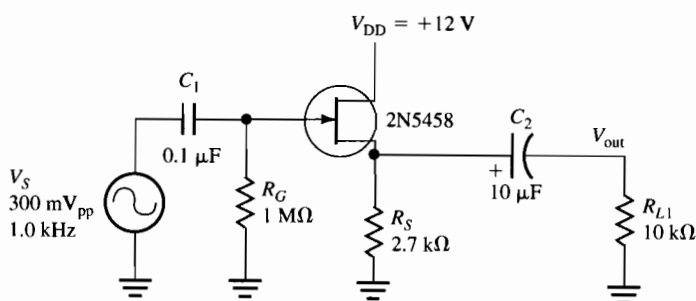

Figure 40–3
4. Remove C_3 and R_D from the circuit and move C_2 and R_{L1} from the drain to the source, as shown in Figure 40–3. Connect the drain directly to +12 V. Measure the dc voltage at the drain, source, and gate and compute I_D . Observe the output voltage from the source with the oscilloscope. Measure the voltage gain and note the phase. Enter the data in Table 40–2 in the row labeled Common-Drain Amplifier.
5. Remove R_{L1} from the CD circuit and add a bipolar CE amplifier, as shown in Figure 40–4. Use the 4.7 kΩ drain resistor for R_L . *Note the polarity of C_2 and C_3 .* Before connecting power, compute the dc parameters listed in Table 40–3 for the bipolar stage. The steps are as follows: